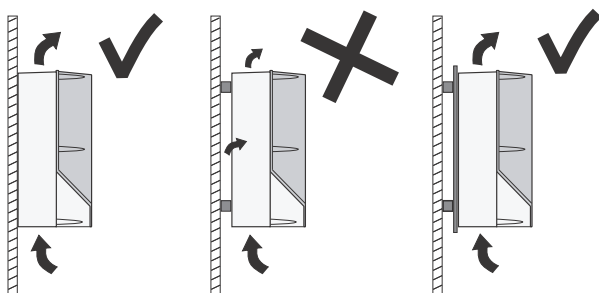

Fig. 3 CU331SP hung directly on the wall or fitted with a back plate
- Hang the CU331SP directly on the wall, or fit it with a back plate. See fig. 3.